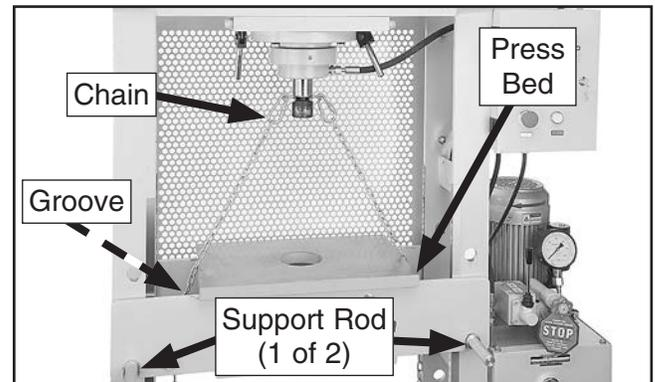

Figure 16. Press bed lifted by ram.
4. Slowly raise ram to apply tension to chains, making sure table is lifted evenly (see **Figure 16**). Raise press bed enough to allow support rods to be inserted into next set of placement holes.